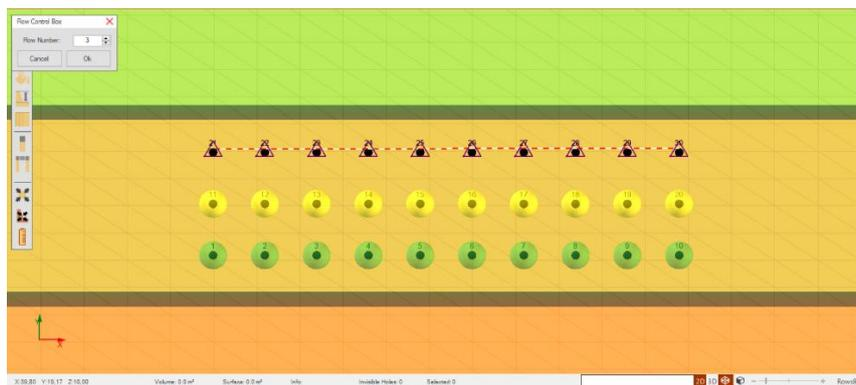

Fig. 222 - Line Editor: By Line
- **By line:** The user must define the row number in the **Row Control Box** and draw a line over a set of holes to assign a row ID (Fig. 222).